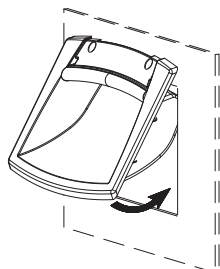

Fig.1
3. Fit the upper part of the handle into the housing (Fig. 1) and press onto the lower part until firmly in place.